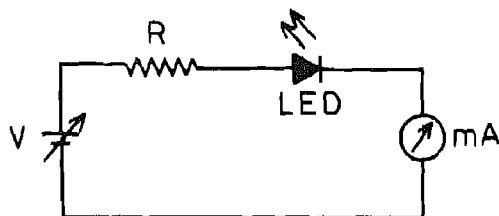

Fig. 6.11
**Procedure:** 1. Connect the circuit as shown in Fig. 6.11. Note that the diode is forward biased.